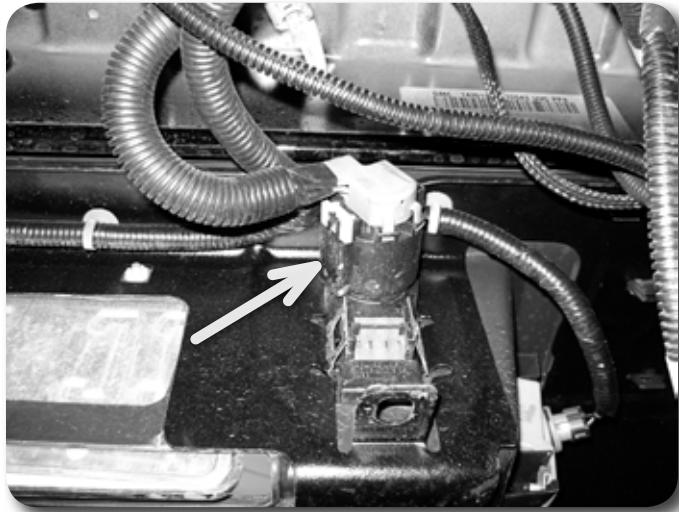

Figure 19
8. Disconnect the trailer wiring connector from the bumper Figure 19.